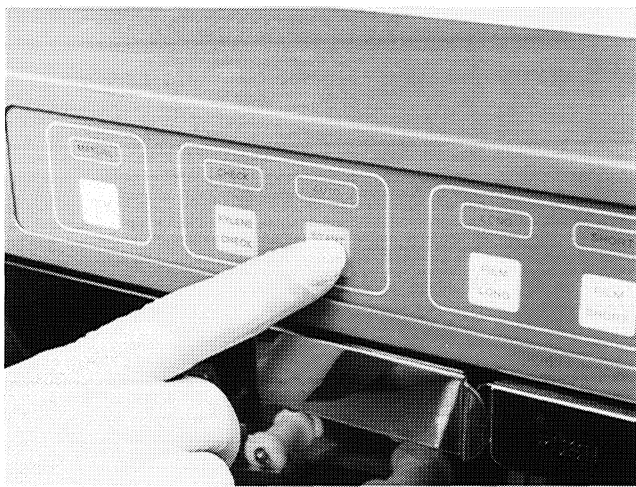

Figure 4-7
12. Press the START keypad (Figure 4-7). The instrument will begin processing slides at the rate of one every three seconds (at 60 Hz). If necessary, the xylene drip volume should be adjusted so the appropriate volume is being dispensed onto each slide.